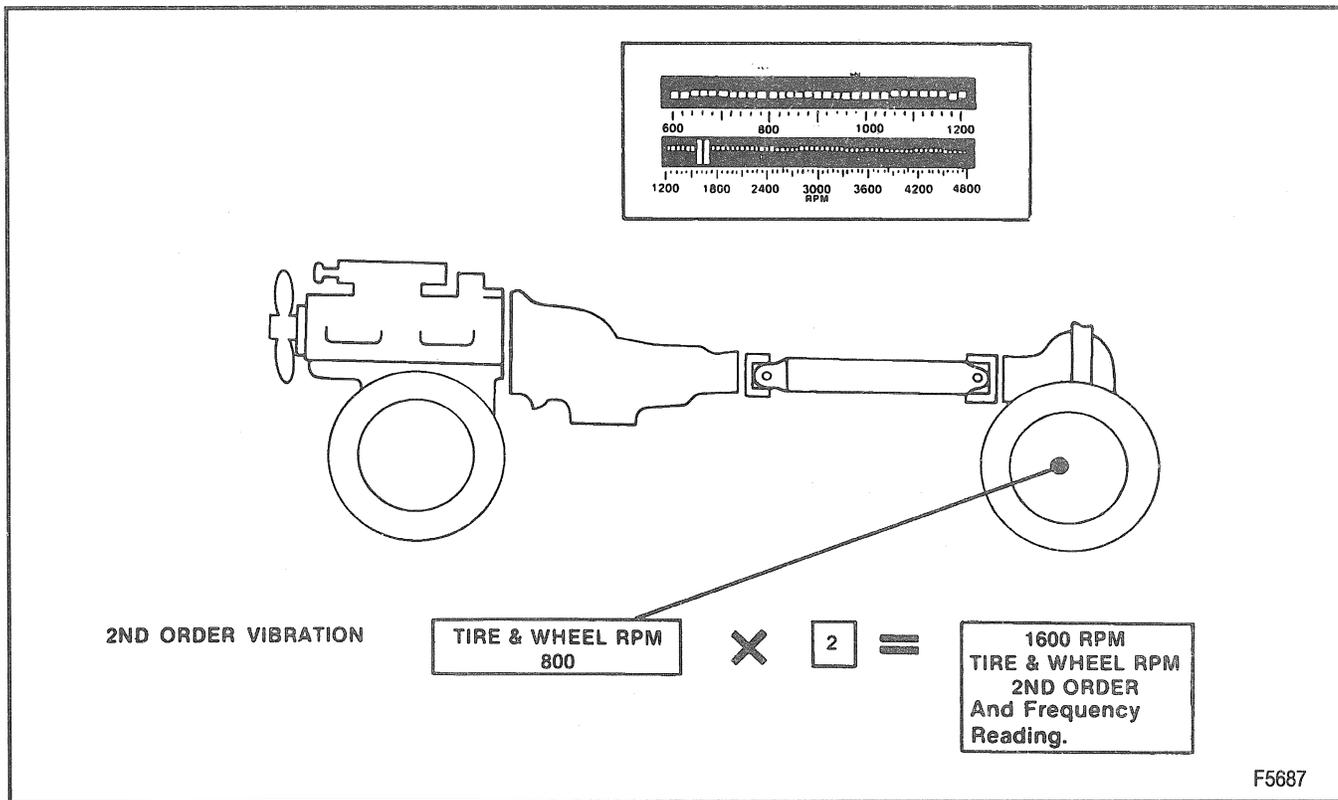

Figure 6—Reed Tachometer 2nd Order Vibration
**Known facts** - Reed tachometer frequency reads at 1600 cycles per minute (Figure 6).